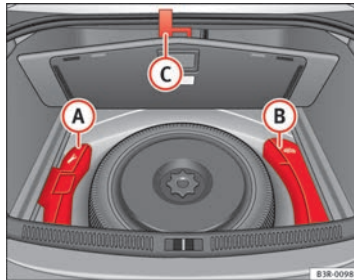

Fig. 179 Toolbox and jack
The tools (A) and jack (B) ⇒ Fig. 179 are stored under the floor panel in the luggage compartment.
- Hook the handle (C) onto the luggage compartment weather strip.